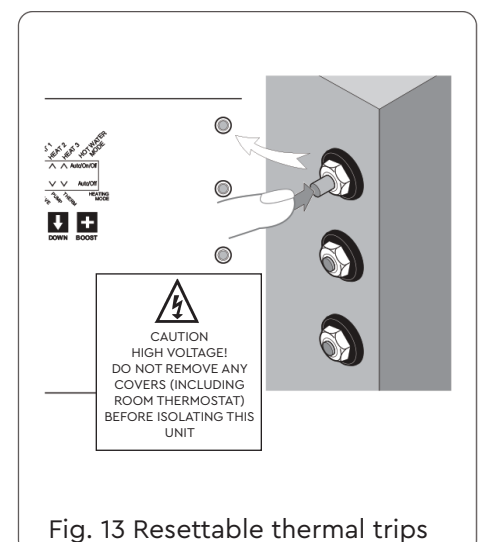

Fig. 13 Resettable thermal trips
- 6.16 **Element resettable thermal trips:** Each of the three elements of the tri-core heater is protected by a 16 Amp Resettable thermal trip, these have their reset buttons located on the front of the Electrastream Control Unit (see Fig 13).